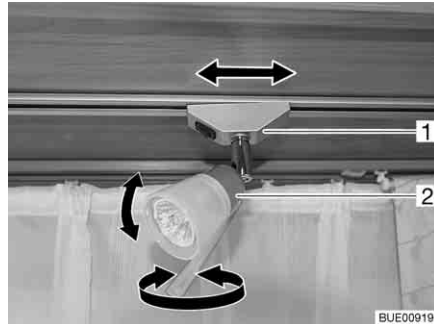

Fig. 58 Spotlight
- Grasp the housing (Fig. 58,2) and turn it.
- Grip holder (Fig. 58,1) and turn by approx. 45°.
- Grip holder (Fig. 58,1) and turn by approx. 90°.